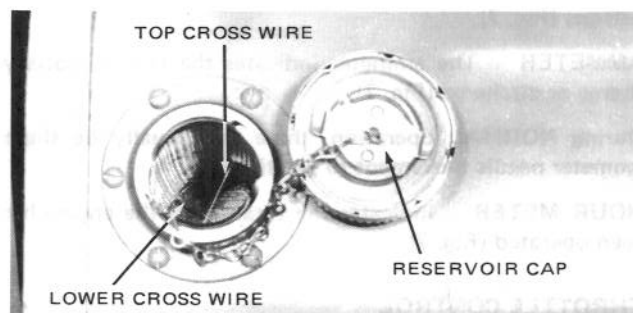

Figure 6
1. Remove reservoir breather cap (Fig. 6).
**IMPORTANT:** Do not allow the hydraulic fluid to drop below the level of the lower cross wire in the reservoir (Fig. 6). Make certain the reservoir cap is screwed on securely.